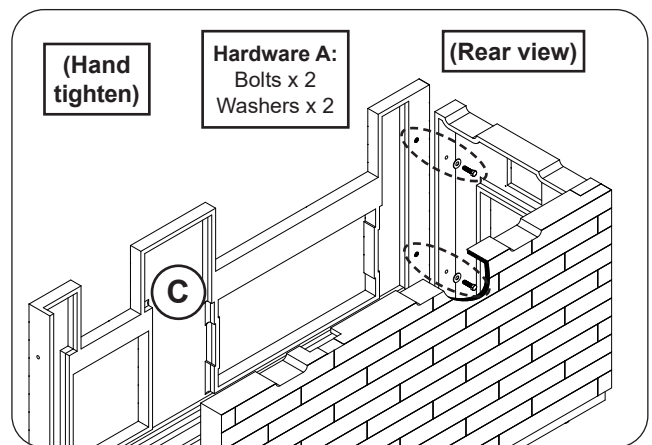

Fig. 11-3 Assemble front wall
Orient the front wall (C) and repeat the hardware installation process (hardware kit A). Hand tighten only. See Fig. 11-3.